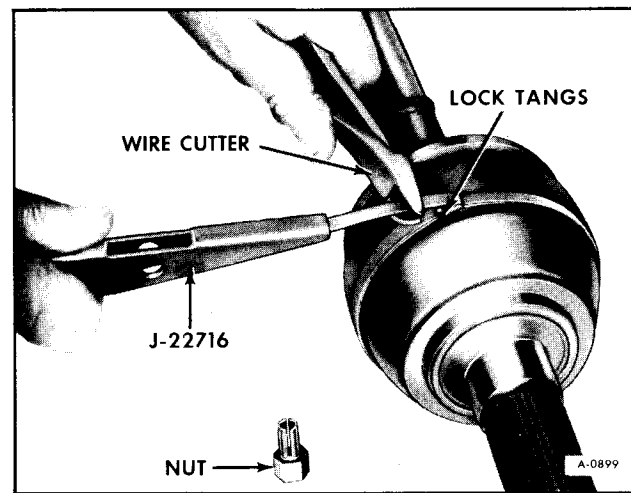
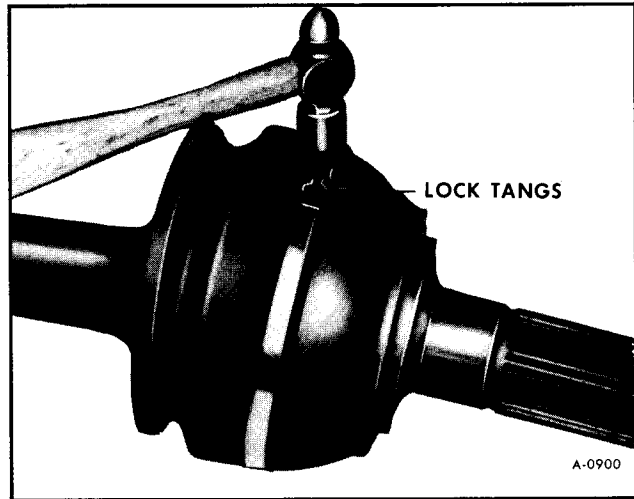

Figure 18—Cutting Off Band
Figure 19—Bending Lock Tangs
g. Back tool off just enough to permit tapping band with a hammer until it lies flat across top of retainer. Unwind the excess strap and cut it off close to retainer as shown in Figure 18. Tap the tabs down until they retain strap. Tap lightly as excessive force will damage seal (See figure 19).